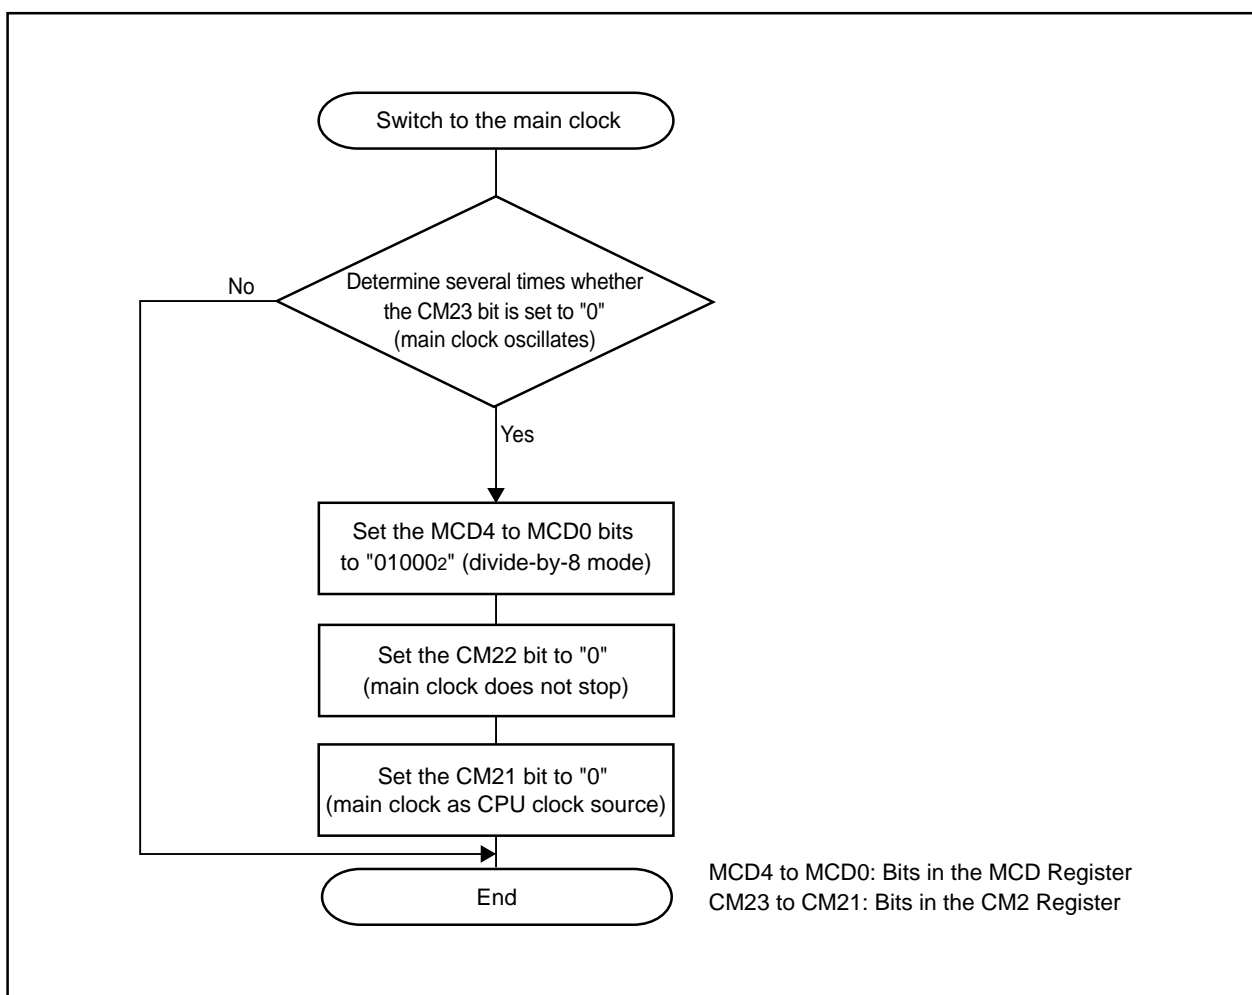

Figure 8.11 Switching Procedure from On-chip Oscillator Clock to Main Clock
- When the main clock resumes running after an oscillation stop is detected, set the main clock as clock source of the CPU clock and peripheral function clock. Figure 8.11 shows the procedure to switch the on-chip oscillator clock to the main clock.